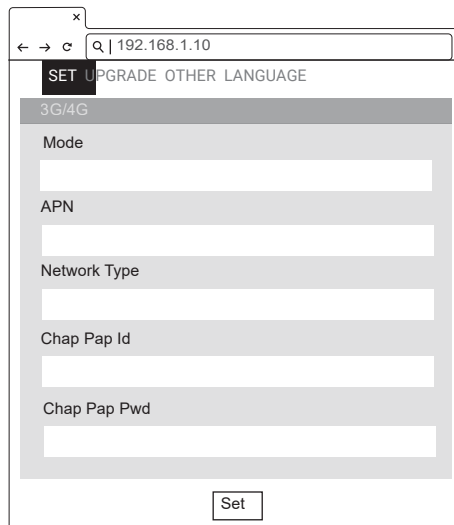

Figure 40. Network Information
5) Fill in the APN, Chap Pap Id, and Chap Pap Pwd information. See Figure 40.